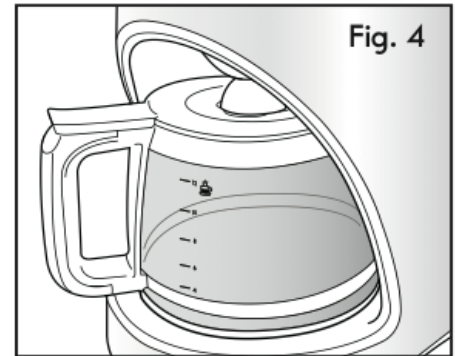

Fig. 4
4. There is a gauge marked from 2 to 12 cups on coffee maker water tank. On the scale of the carafe 4 to 12 cups displayed (s. Fig. 4). The amount of water marked the number of coffee cups cooked.